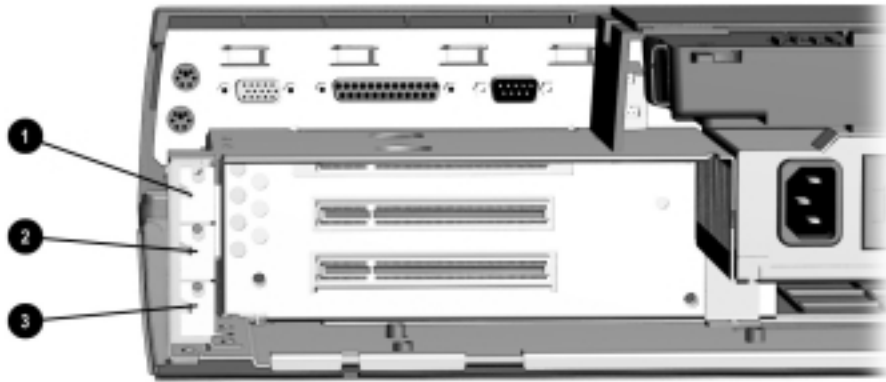

Figure 5-9. Locating the Expansion Slots
The expansion base provides three slots for 32- or 64-bit PCI expansion boards. The expansion base supports half-sized expansion boards in slots ❶, ❷ and ❸; a full-sized expansion board can be installed in slot ❸ (Figure 5-9).